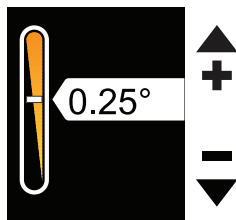

Figure 1-17: Set custom warming rate
- If you select Set Custom, tap the Increase and Decrease buttons to set the rate (Figure 1-17 on page 1-31).